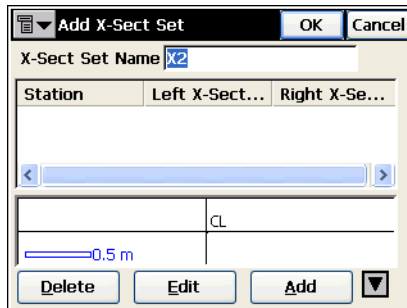

Figure 4-44. Add Cross Section Set
- To add a station, tap the **Add** button in the *Add X-Sect Set* screen (Figure 4-44 on page 4-33). Add as many templates as necessary to define the road. If two or more cross sections are defined in one set, the intermediate cross sections are calculated using interpolation.